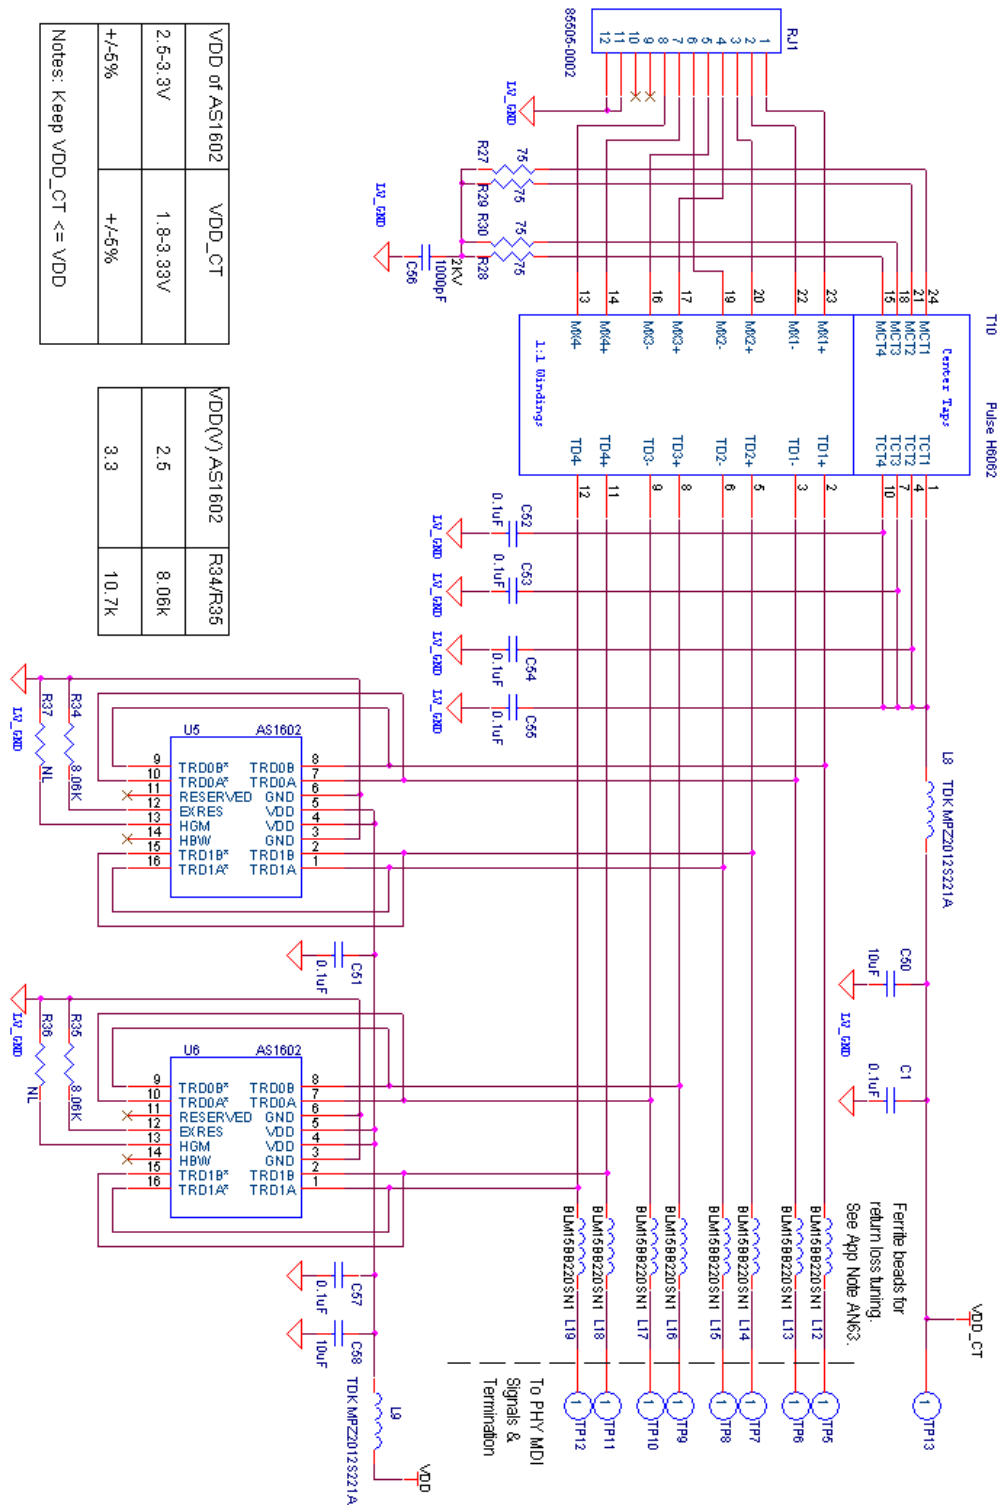

Figure 2: GbE Application Diagram using AS1602
Following are the recommendations. Please refer to Figure 2 as the baseline typical application diagram for AS1602 usage in GbE Application.
6. All four AS1602 VDDs can share the same supply filter and bulk capacitor, L9/C58 in Figure 2.
8. Figure 3 shows actual layout of Figure 2 in GbE application. As seen, the AS1602 pinout has been designed for very clean and through routing of Ethernet signals so that the addition of the AS1602 footprint does not create any stubs on the Ethernet signals.